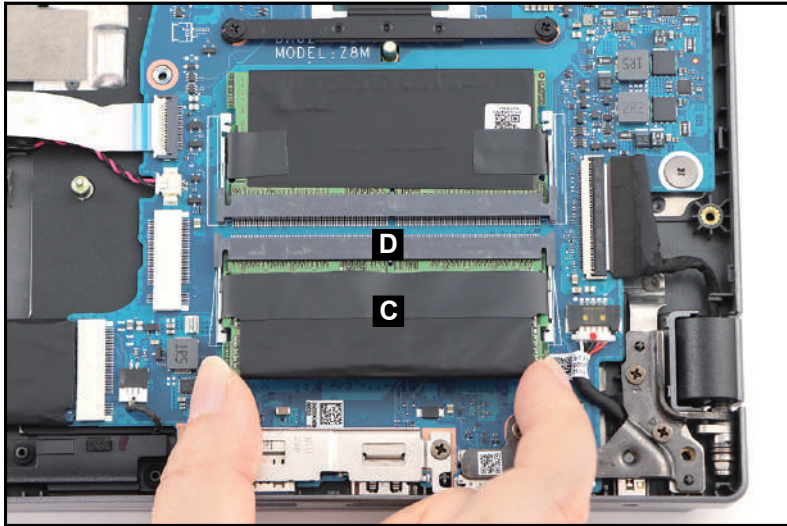

Figure 3-29. DIMM Module Removal
3. Disconnect the DIMM module (C) from the mainboard connector (D) (Figure 3-29). Then remove the DIMM module.